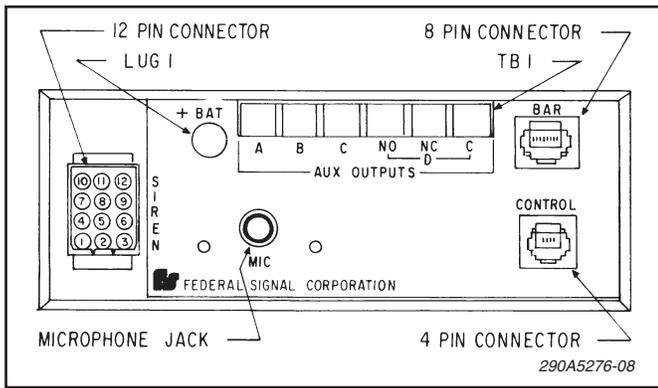

Figure 3-7.
The Amplifier/Relay Unit power cable, included in the carton, is equipped with a twelve-pin plug that mates with the connector on the rear of the Amplifier/Relay Unit (see figures 3-7 and 3-8). Additional wire (the same gauge or heavier) may be
5. See figures 3-7 and 3-11. Connect wires from the accessories to TB1 as applicable. Refer to the instructions packed with the accessories for proper wire gauge, current requirements, and any additional instructions.